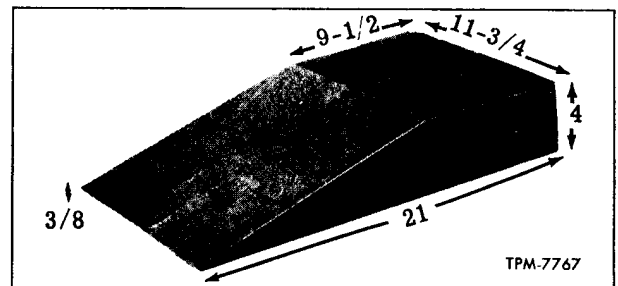

Figure 1—Run-Up Block Dimensions
2. Run flat tire up on run-up block. (Run-up block can be made locally to dimensions shown in figure 1.) Fully apply parking brake.
1. To change outside dual, place wooden run-up block (fig. 1) at inside tire.